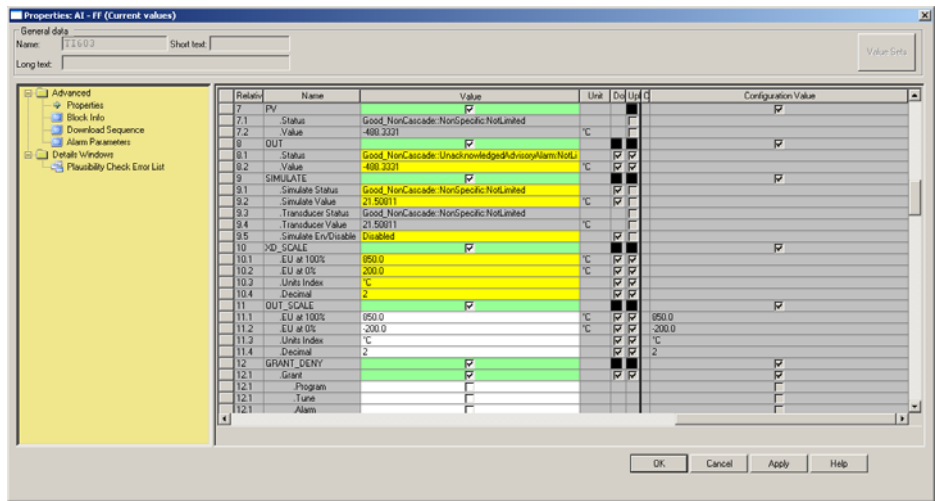

Figure 187. Online Parameters
- a. Open the Properties dialog of a function block by double clicking the block in the FF Application object or in the H1 device object (refer to Figure 187).